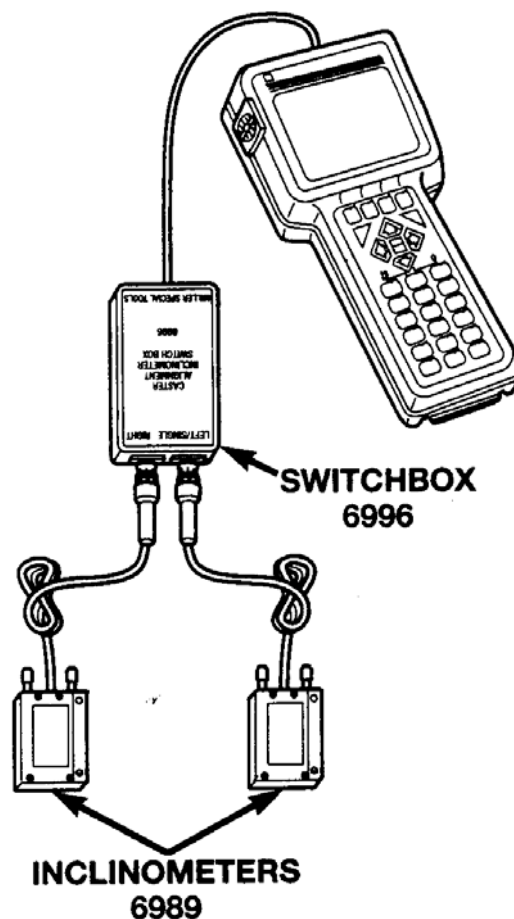

Figure 17
- c. Attach the two inclinometers (Special Tool #6989) to the switch box (Special Tool #6996) (Figure 17).